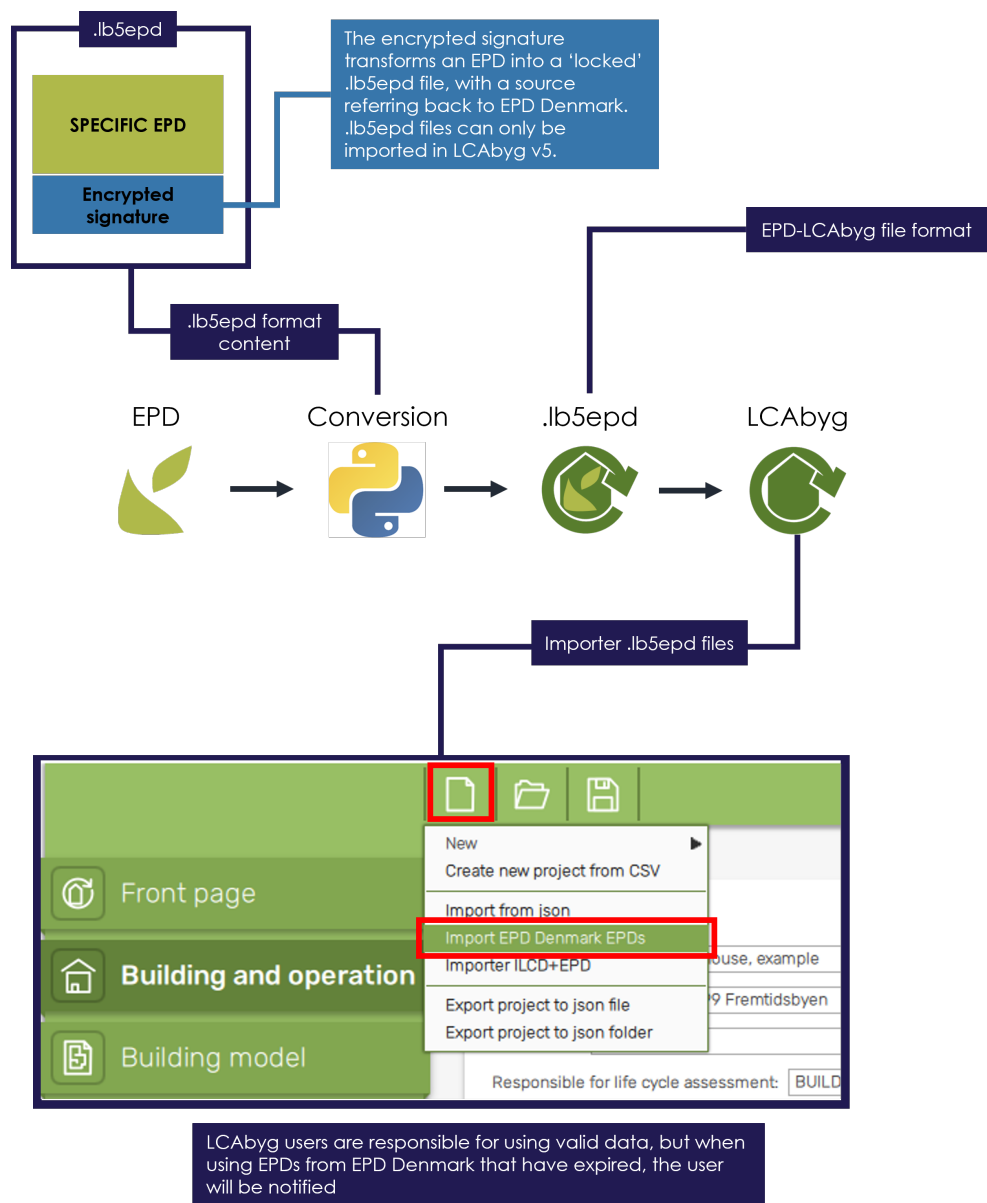

Figure C.1: Procedure description of import of EPD's from EPD Denmark into LCAByg v5
The collaboration between BUILD and EPD Denmark makes it possible to import EPD's from EPD Denmark and thereby avoiding many uncertainties and human errors that can occur by manual entering. Additionally EPD entering can be time consuming, which is expensive. All these factors are remedied through this project. It's only EPD's at EPD Denmark that are of the format .lb5epd format that can be imported that is illustrated in figure C.1.
As visualised in Figure C.1, the EPD's from EPD Denmark is converted to a .lb5epd file. The file is encrypted the same way as the generic (GenDK) database in LCAbyg, which means all files are locked with the source e.g. EPD Denmark and must be handled the same way as GenDK components when editing. The encryption means that the EPD's data is verified by the provider exactly as when using their PDF files, however neither the provider nor BUILD is responsible for the use of data and thereby sources of error. The LCAbyg user is responsible for using valid and correct data.
STEP 2	Click on files (paper icon) in the top left corner, and choose Import EPD Denmark EPD's . see Figure C.1.